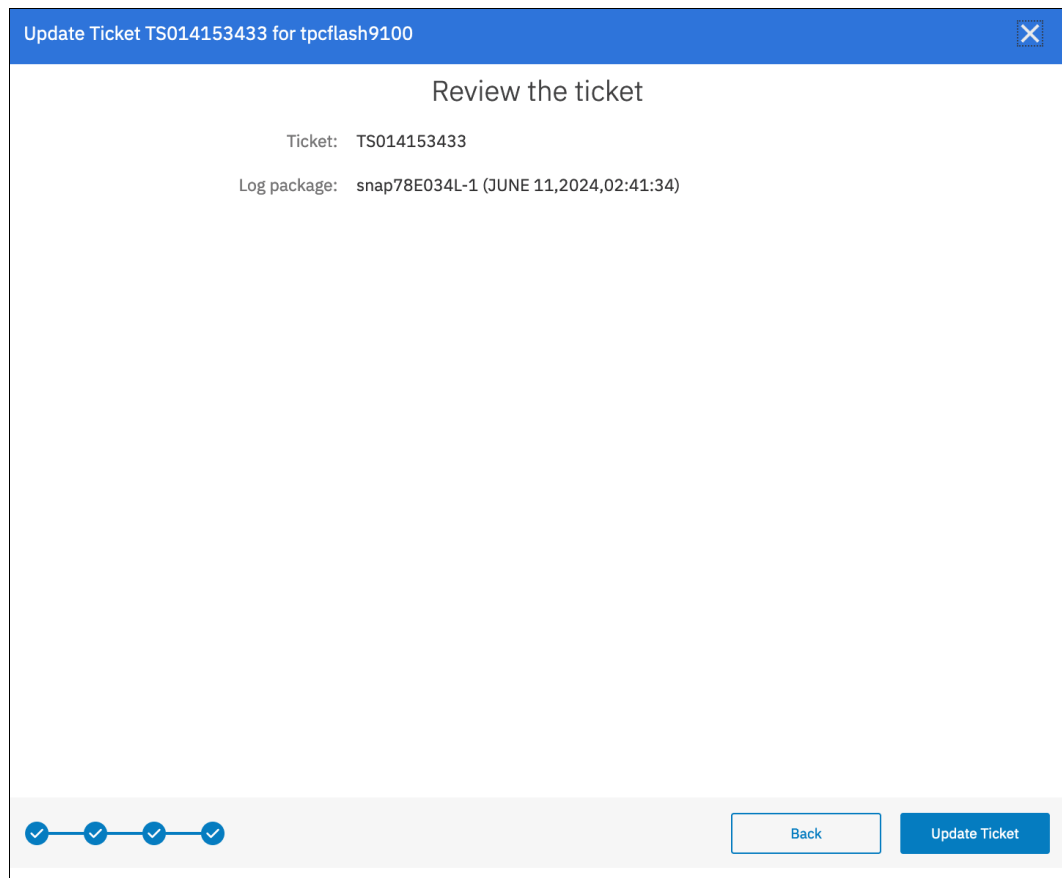

Figure 5-20 Confirming the log upload
3. The review screen shown in Figure 5-20 allows you confirm what is going to be uploaded.